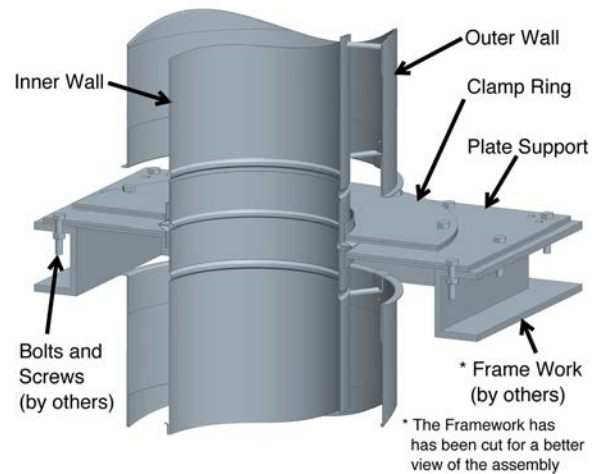
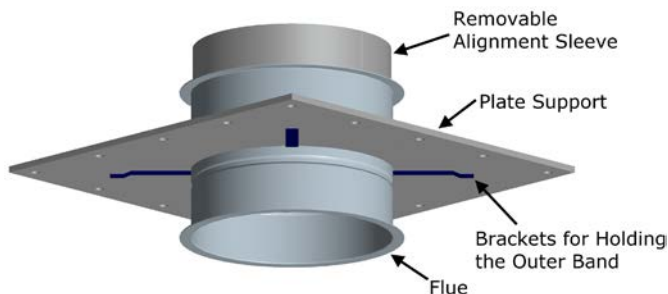

Figure 41a - Anchor Plate on Framing
Figure 43 - Anchor Plate with Length (APL)
The APL is an anchor plate integrated on a length. It cannot be used as a fixed support for vertical or horizontal installation because the anchor plate is free to move on the longitudinal axis of the length. Refer to the Anchor Plate (AP) for all the warnings/details, except for the installation. See Figure 43 for detail of APL.
CAUTION: Small brackets must be on the bottom side so these can hold the outer band (BSE) against the support plates and to make sure the anchor plate is positioned in the middle of the inner wall when installed. See Figure 43 to 46.
NOTE: In the case of an Anchor Plate (AP), refer to Figure 41a and 41b for installation. For the Anchor Plate with Length (APL), Refer to Figure 43 to 46. If it is not possible to suspend the Tee, it may be supported from the base (See Table 5) for maximum height for a base Supported Tee. When this type of support is necessary, access to the drain cap may be hindered. A structural steel stand can be used to allow access to the Tee Cap (TC) or Drain Tee Cap (DTC).
NOTE: In the case of an Anchor Plate (AP), refer to Figure 41a and 41b for installation.